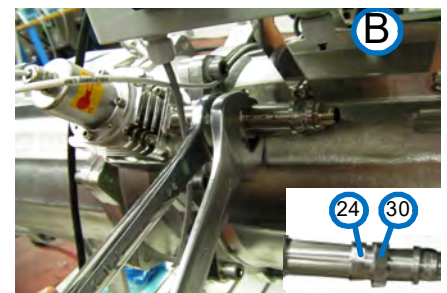

Figure 10-28: Loosening nuts B (Generic View)
- Step 2.** Grip the Sensor casing with wrenches # 24 and # 30, as shown in view **B**, Figure 10-28. The inset shows the wrench #24 in the left hand gripping the casing's left band and wrench #30 in the right hand gripping the casing's large nut on the right.